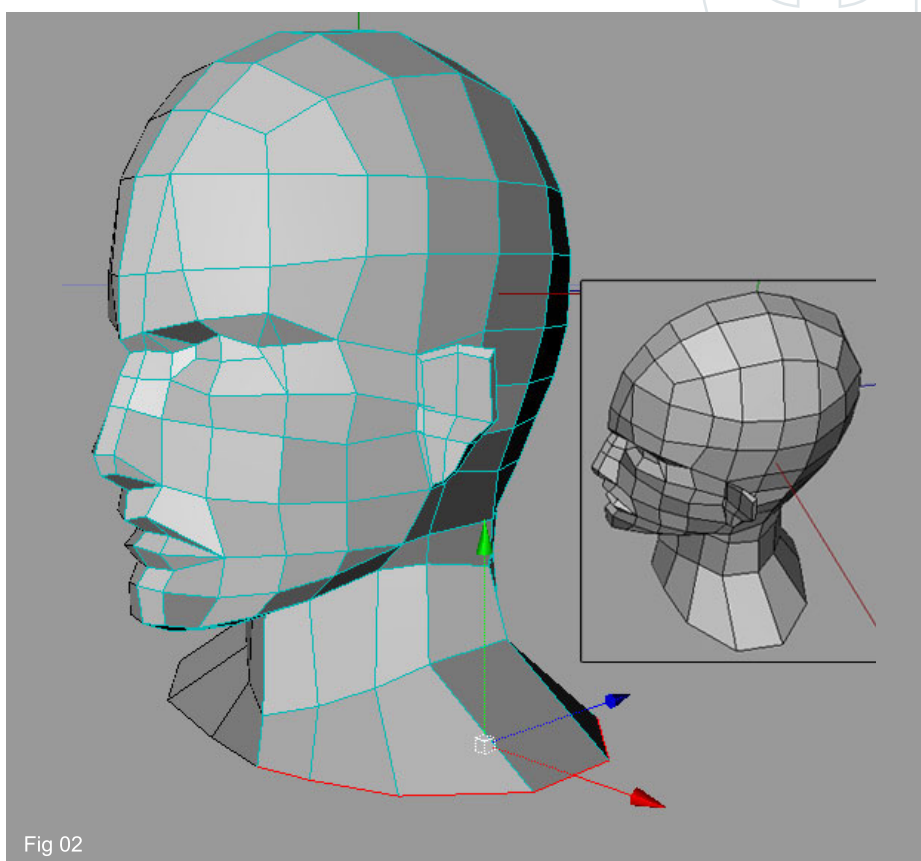

Fig 02
2. When you have done, adjust the points to obtain a nice neck shape. Make another extrusion of the edges to form the top of the shoulders (Fig02). You can see in the illustration that the small picture shows the positions that the new verts have taken up.